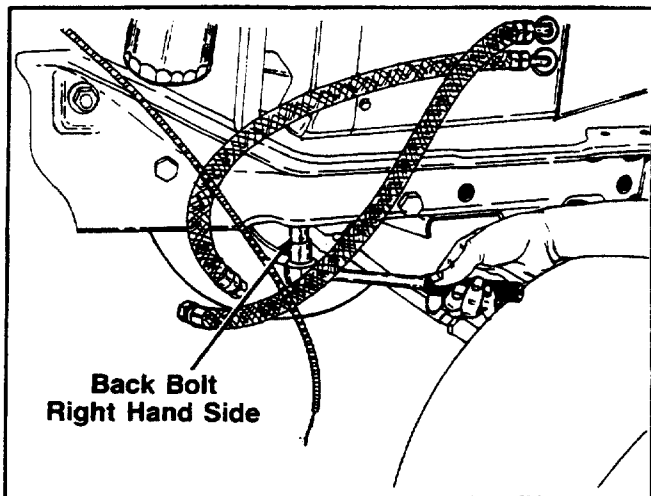

FIGURE 22.
24. Remove the four remaining bolts from engine cradle and chassis. See figures 22 and 23.